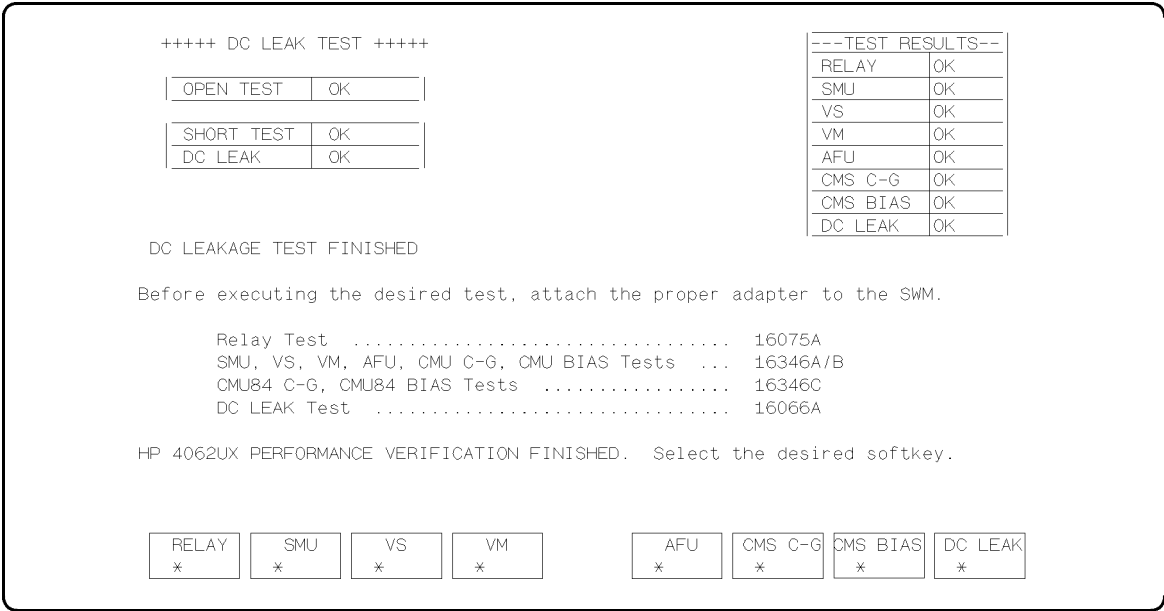

Figure 6-24. DC Leak Test Results Page
- When the DC Leakage Test finishes, test results are displayed as shown in Figure 6-24.